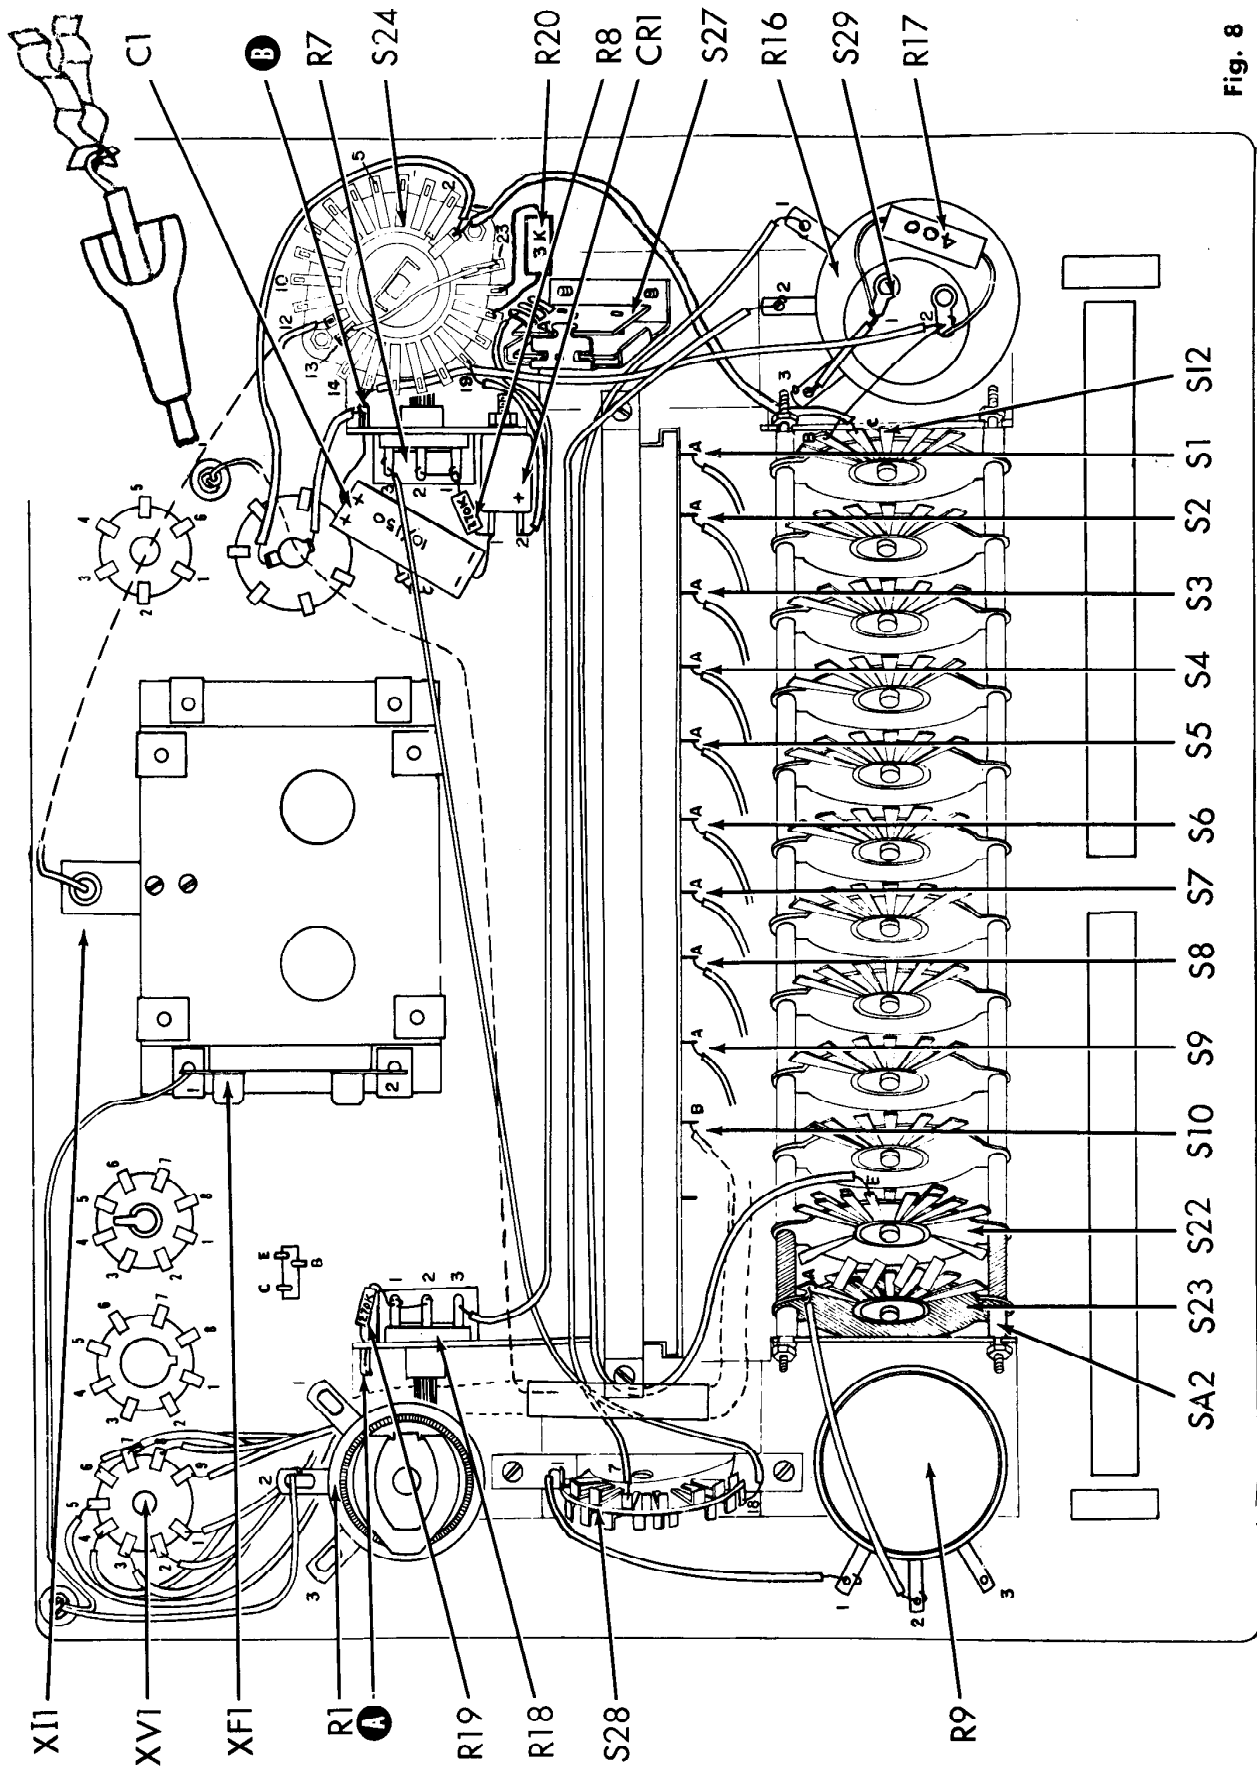

Fig. 8
- (✓) 1. Fig. 8. Set the 12 levers of SA2 to the mid-position and insert the switch sub-assembly into the panel. Note that lever V fits into a shorter slot than the others; position this lever accordingly.
- (✓) 2. Fig. 8. Note that the filament switch, S24, has a small locating key. Place a 3/8" flat washer over the shaft and insert this switch thru the appropriate holes in the bracket and panel so that the key engages the mating hole in the bracket. Fasten it loosely to the panel with a 3/8" nut.
- (✓) 3. Fig. 8. In the same manner, loosely fasten R1, R9, and R16 in their respective holes. Use one 3/8" flat washer and one 3/8" nut with each. Make sure that the locating keys engage the bracket holes properly.
- (✓) 4. Fig. 8. Press a small red knob on the LINE and MERIT switch shafts. Place the small black knobs on the remaining 24 push-button and lever shafts. Check to see that all levers and knobs fit their respective slots and holes, then tighten the panel nuts holding S24, R1, R9, and R16.
- (✓) 5. Fig. 8. Connect the white lead from the pilot light assembly, XI1, to S24-12 (C).
- (✓) 6. Fig. 8. Connect a short piece of bare wire, covered with spaghetti, from S24-13 (C) to S24-23 (C).
- (✓) 7. Fig. 8. Connect the 3K 5W resistor, R20, from S24-21 (C) to S24-22 (S).
- (✓) 8. Fig. 8. Connect a short piece of bare wire, covered with spaghetti, from the terminal connected to the shell of the pilot light base in XV7 (S) to ground "B" (C).
- (✓) 9. Fig. 8. Connect a 6" yellow lead from the center terminal of the pilot light base in XV7 (S) to S24-1 (C).
- (✓) 9a. Fig. 8. Connect a 7" yellow lead from S24-1 (S) to S12-C (S).
- (✓) 10. Fig. 8. Connect one end of a 270K resistor, R8 to R7-1 and 2 (solder both). Connect the other end to CR1-1 (C).
- (✓) 11. Fig. 8. Connect a 4" yellow lead from CR1-2 (S) to S24-19 (C).
- (✓) 12. Fig. 8. Connect the positive (+) end of the 10mfd/150V capacitor, C1, to ground "B" (C). Connect the negative (-) lead to CR1-1 (S).
- (✓) 13. Fig. 8. Connect a 14" red lead from R7-3 (S) to S28-18 (S).
- (✓) 14. Fig. 8. Connect a 14" brown lead from S27-A (S) to R18-3 (S).
- (✓) 15. Fig. 8. Connect one end of the second 270K resistor, R19, to R18-1 and 2 (solder both). Connect the other end to ground "A" (C). See # 61-6c
- (✓) 16. Fig. 8. Connect an 8" black lead from ground "B" (S) to S29-2 (C).
- (✓) 17. Fig. 8. Connect the 400Ω 5W resistor, R17, from S29-1 (C) to S29-2 (C).
- (✓) 18. Fig. 8. Connect a short piece of bare wire, covered with spaghetti, from S29-2 (S) to S12-B (S).
- (✓) 19. Fig. 8. Connect a short piece of bare wire, covered with spaghetti, from R16-3 (S) to S29-1 (C).
- (✓) 20. Fig. 8. Connect a 16" green lead from R16-2 (S) to S28-7 (S).
- (✓) 21. Fig. 8. Connect a 20" yellow lead from R16-1 (S) to S22-E (S).
- (✓) 22. Fig. 8. Connect a 5" green lead from R9-1 (S) to S28-1 (S).
- (✓) 23. Fig. 8. Connect a 4" blue lead from R9-2 (S) to S23-A (S).
- (✓) 24. Fig. 8. Connect and solder one end of the following leads:
- (✓) 25. Fig. 8. Form the above leads together neatly and pass a 3" length of tubing over the free end. Pass the tubing up so that it protects and binds the leads as they bend around SA1.
- (✓) 26. Fig. 8. Connect and solder the above leads to XVI as follows: Brown to pin 1, Red to pin 2, Orange to pin 3, Yellow to pin 4, Green to pin 5, Blue to pin 6, Violet to pin 7, Grey to pin 8, and White to pin 9.
- (✓) 27. Fig. 8. Knot the black rubber-covered lead 12" from the free end and pass thru the small grommet. Solder the free end to the plate-and-grid cap.
- (✓) 28. Fig. 8. Pass the line cord thru the large grommet so that the stripped end will be behind the panel. Knot the line cord 6" from the free end. Connect one end to XF1-1 (S) and the other end to R1-2 (S).